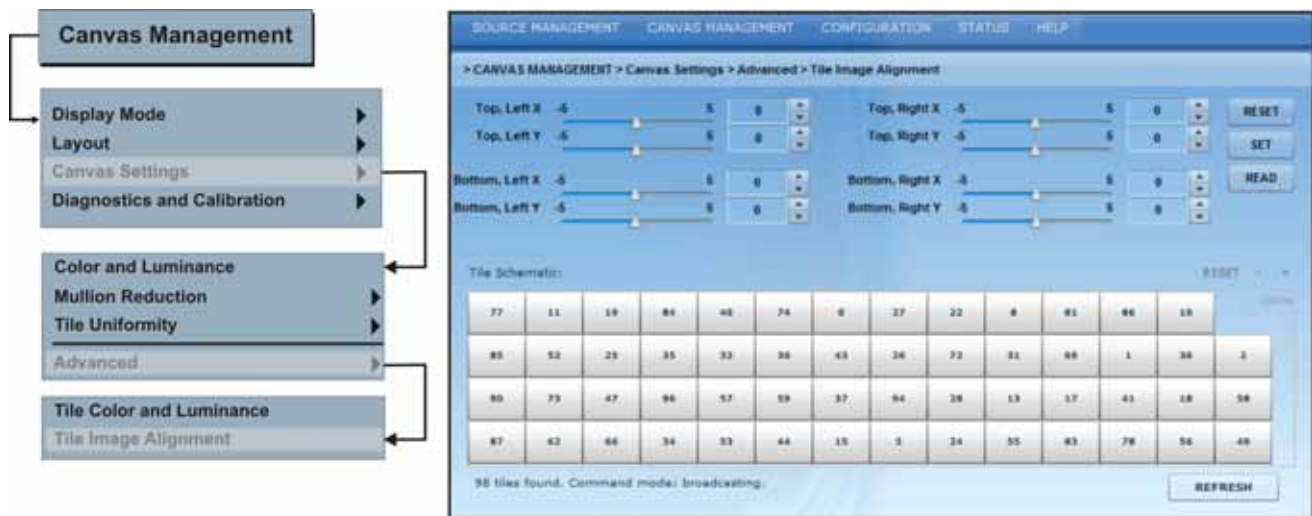

Figure 3-32 Advanced Tile Image Alignment
4. Access the Tile Image Alignment screen (**Figure 3-32**) to adjust the XY offsets of the top, bottom, left and right values. Click **Read** to see the changes take affect and **Set** to confirm the changes.